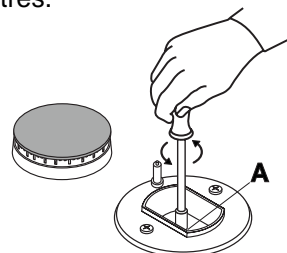

fig.7
- Unscrew the nozzles "A" (fig.7) using a 7 mm socket wrench and replace them with the ones which have a diameter suitable for the type of gas to be used, according to the table 1 "burners and nozzles specifications).